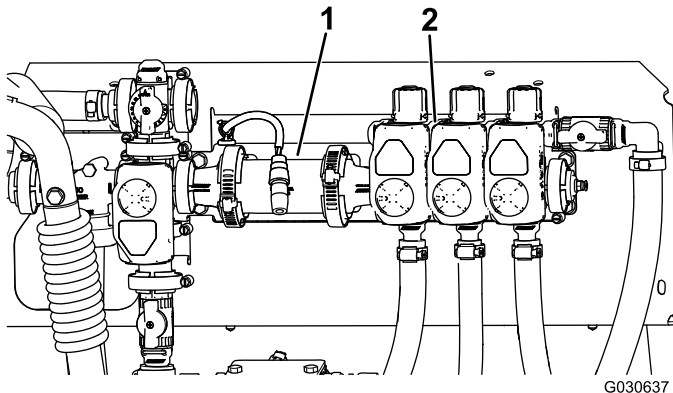

Figure 7
- Carefully move the boom-valve assembly into the position flush with the flowmeter body (Figure 7).